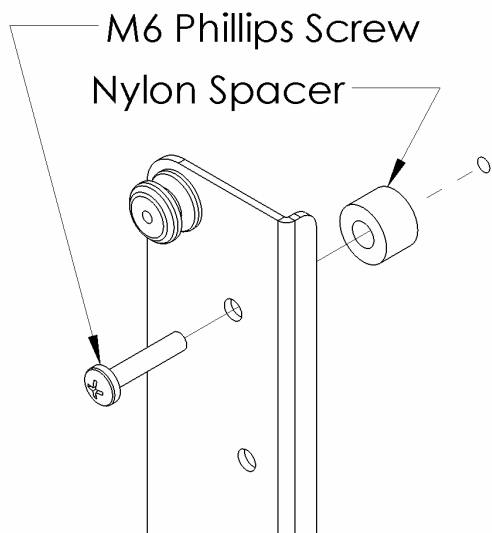
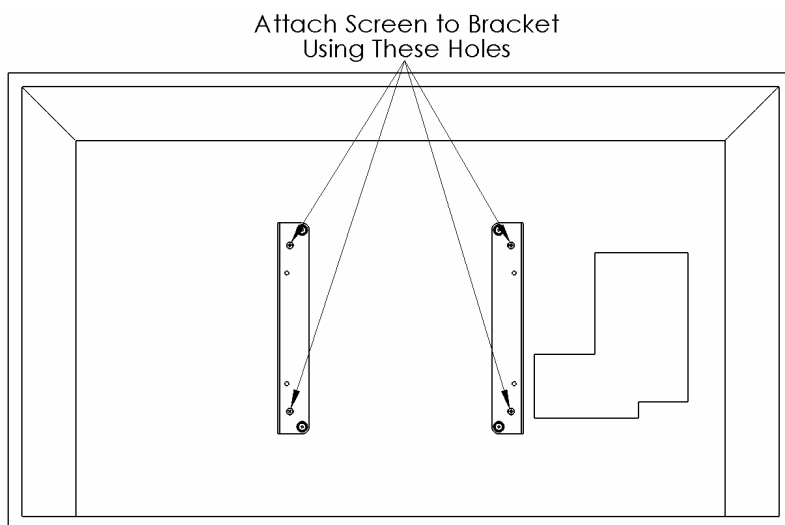

Figure 4
Figure 5
- Place Nylon spacers over mounting holes on back of screen. Attach mounting brackets to display using the .75 od x .34 id x .50 thick nylon spacers and M6 x 30mm screws (see Figure 4 & Figure 5). Use the longer spacers and screws if extra clearance is required.